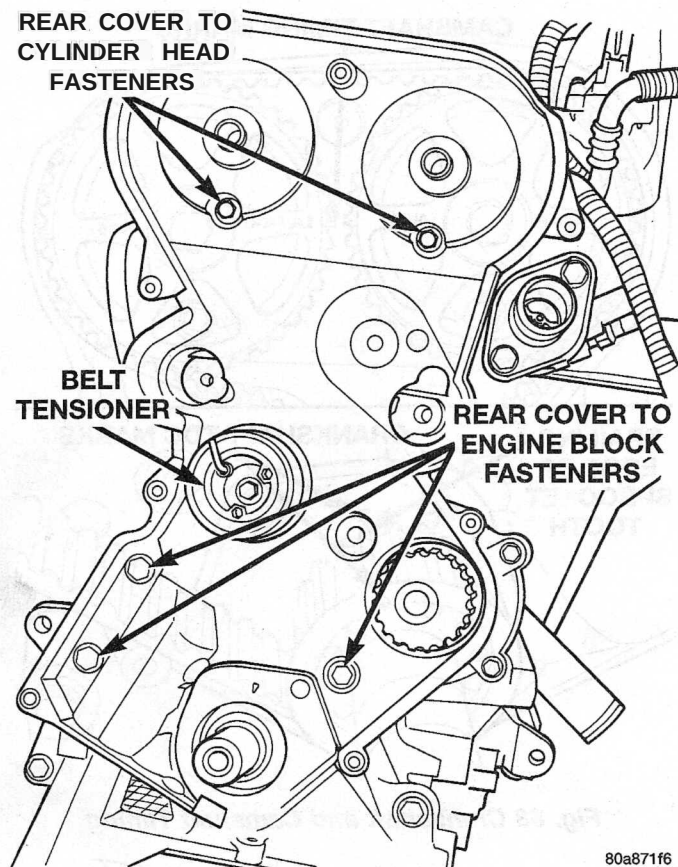

Fig. 65 Rear Timing Belt Cover Fasteners
(4) Remove rear timing belt cover fasteners and remove cover from engine (Fig. 65).